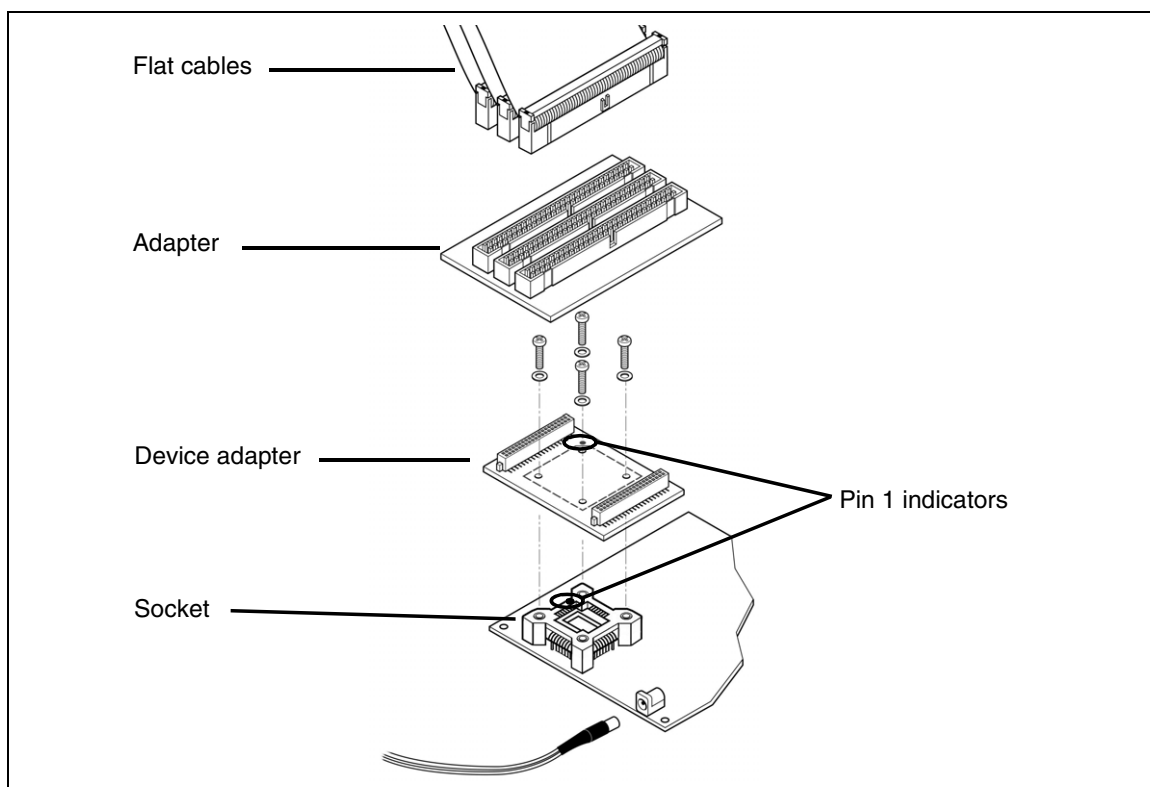

Figure 10: Connection for TQFP64 10x10
- 3 Connect the other end of each of the three 50-pin flat cables to the TQFP80/64/44 adapter (ref.: DB530), as shown in Figure 10.
- 5 Fix the device adapter (ref.: DB583) to the Yamaichi socket soldered on your application board using the provided screws (see Figure 10). Ensure that the device adapter's pin 1 indicator is aligned with the socket's pin 1 indicator.
- 6 Connect the adapter to the device adapter as shown in Figure 10.